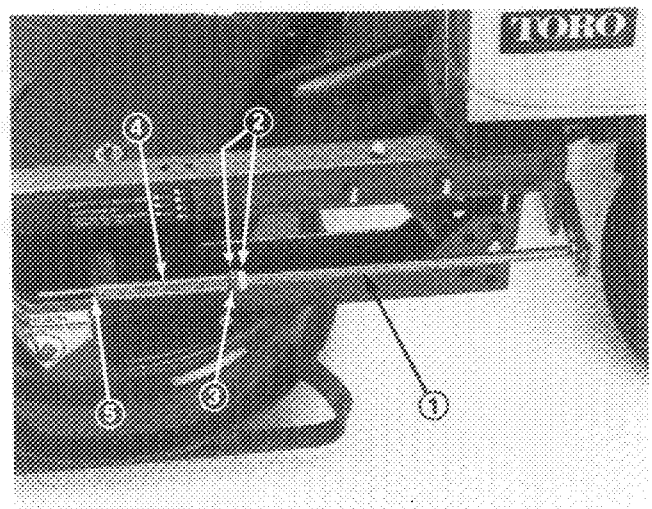

Figure 4
2. Thread (2) jam nuts onto each adjusting shaft (approximately 7 inches) (Fig. 4).
3. Slide a washer, spring and bushing onto each adjusting shaft. Bushing to be positioned so flange end is against spring (Fig. 4).
4. Insert spring end of each adjusting shaft into hole in deck mounting bracket and other end of shaft into hole in carrier frame mounting tab. Small end of bushing to fit into hole in deck bracket (Fig. 4).
5. To tension belt, tighten front jam nut on each adjusting shaft until springs are compressed to a length of 5", measured between washer and bushing (Fig. 4). Secure rear jam nuts. Back side of belt to be toward belt guide.